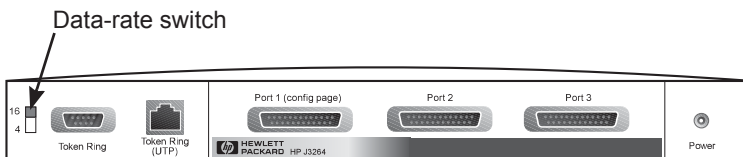

Figure 2.1 Token Ring data-rate switch set at 16 Mbps on the J3264A
3. For a Token Ring print server (J3264A), set the data-rate switch to the appropriate speed (4 Mbps or 16 Mbps) (Figure 2.1). To do this, take a pen or similar object and slide the switch up for 16 Mbps or down for 4 Mbps.